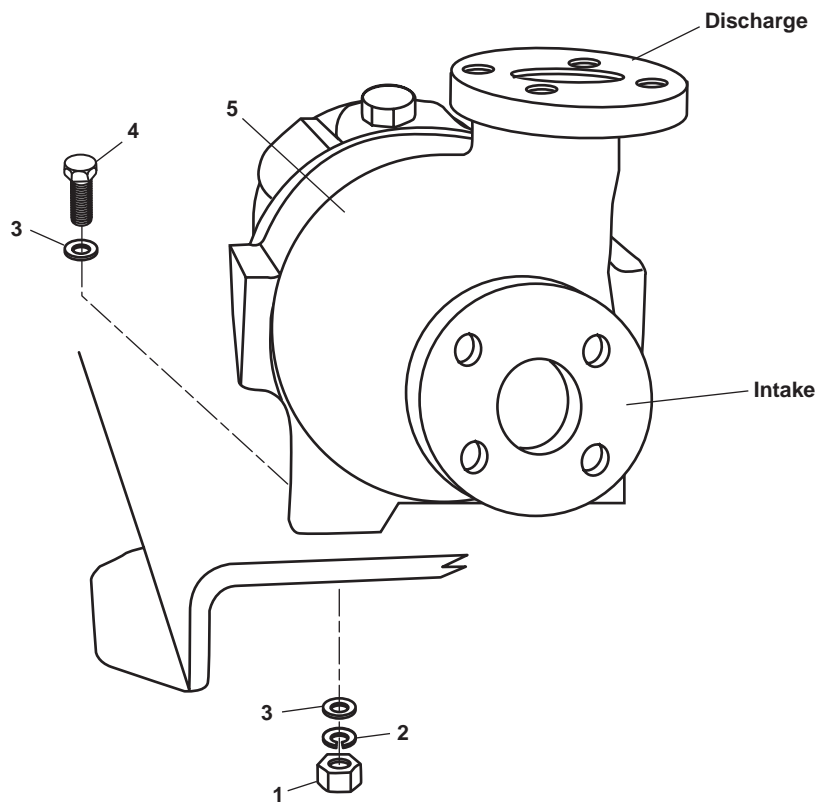

Figure 2. Sewage Discharge Pump Removal
6. Remove the nuts (figure 2, item 1), the lockwashers (figure 2, item 2), the flat washers (figure 2, item 3) and the bolt (figure 2, item 4) securing the sewage discharge pump (figure 2, item 5) to the foundation. Discard the lockwashers.
7. Using the endless sling and chain hoist, carefully remove the sewage discharge pump (figure 2, item 5) from the foundation and move the sewage discharge pump to a workbench.
1. Using the endless sling and chain hoist, carefully lower the sewage discharge pump (figure 2, item 5) onto the foundation and into place.
2. Install the bolts (figure 2, item 4), flat washer (figure 2, item 3), new lockwashers (figure 2, item 2) and nut (figure 2, item 1) securing the sewage discharge pump (figure 2, item 5) to the foundation. Do not tighten bolts at this time.
6. Tighten the bolts (figure 2, item 4) securing the sewage discharge pump (figure 2, item 5) to the foundation.